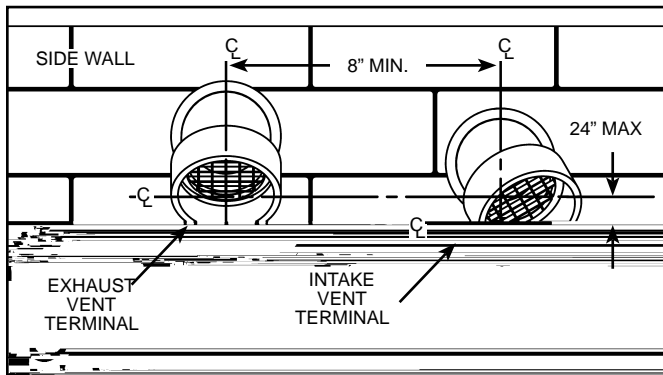

Figure 21.
**Important:** When terminating the vent on a side wall, the following specifications pertaining to terminal location must be followed (see Figure 21).
4. To avoid exhaust recirculation, the air intake terminal may be rotated away from the exhaust vent terminal (see Figure 21).